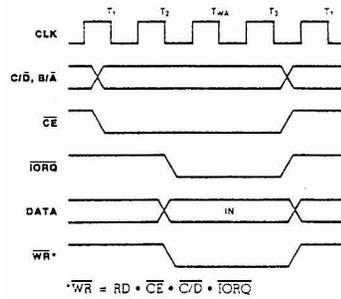

Figure 12. Write Cycle Timing
**Write Cycle.** Figure 12 illustrates the timing for programming the Z-80 PIO or for writing data to one of its ports. No Wait states are allowed for writing to the PIO other than the automatically inserted TWA. The PIO does not receive a specific write signal; it internally generates its own from the lack of an active RD signal.